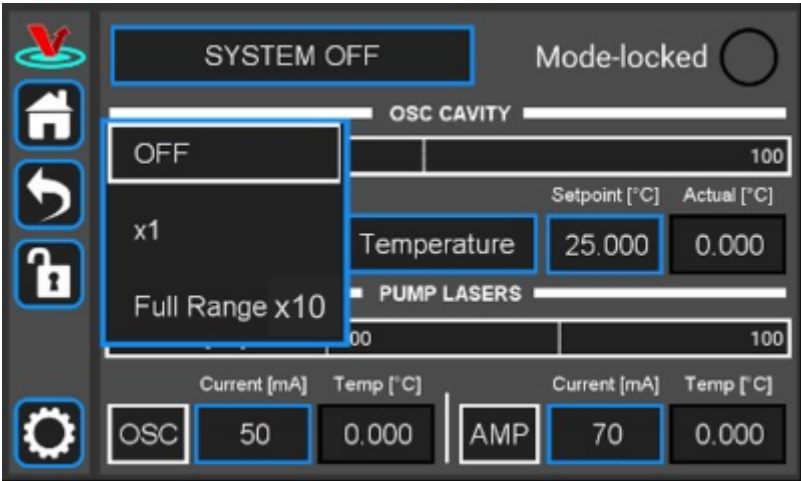

Fig. 8: Select PZT Gain
3. Touch the “PZT” touch screen button (figure 8) to bring up a drop-down menu and select “Full Range x20” to enable the PZT servo.